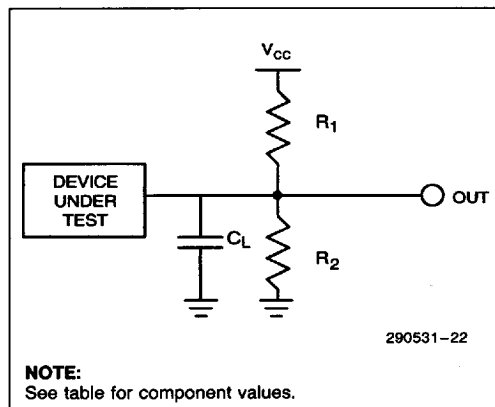

Figure 21. Test Configuration
5. See Test Configurations (Figure 21), 3.3 ± 0.3V Standard Test component values.
6. See Test Configurations (Figure 21), 5V Standard Test component values.
9. See Test Configurations (Figure 21), $3.3 \pm 0.3V$ Standard Test component values.
10. See Test Configurations (Figure 21), 5V Standard Test component values.